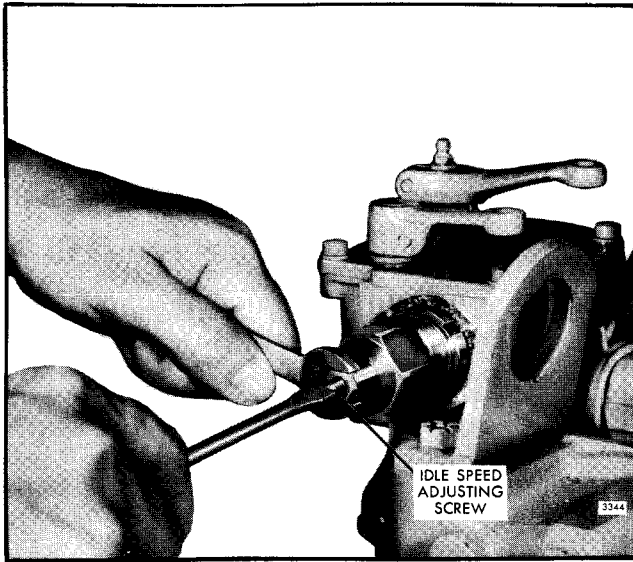
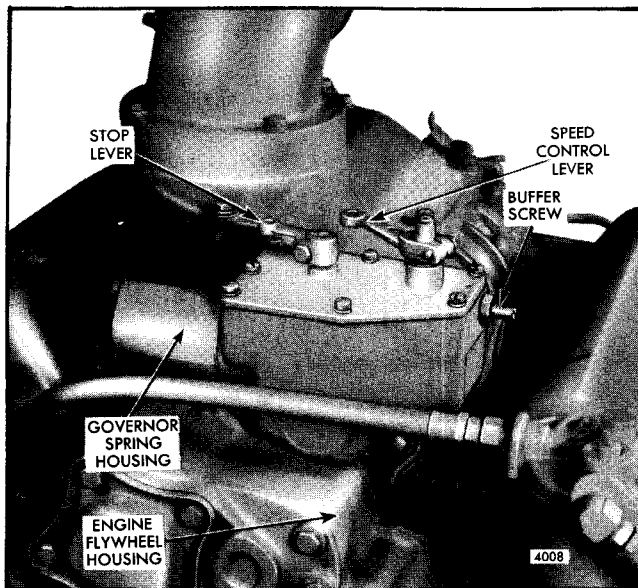

Fig. 8 - Adjusting Engine Idle Speed
Fig. 1 - Limiting Speed Governor Mounting
1. With the engine running at normal operating temperature and with the buffer screw backed out to avoid contact with the differential lever, turn the idle speed adjusting screw until the engine is operating at approximately 15 rpm below the recommended idle speed (Fig. 8).
The limiting speed mechanical governor is mounted at the rear of the engine, between the flywheel housing and the blower (Fig. 1). The governor is driven by the right blower rotor drive gear. The left blower rotor drive gear is driven by a shaft, that passes through the governor housing, from the engine gear train. There are two types of limiting speed governor assemblies. The difference in the two governors is in the spring mechanism (Fig. 8). One has a long spring mechanism, the other has a short spring mechanism.